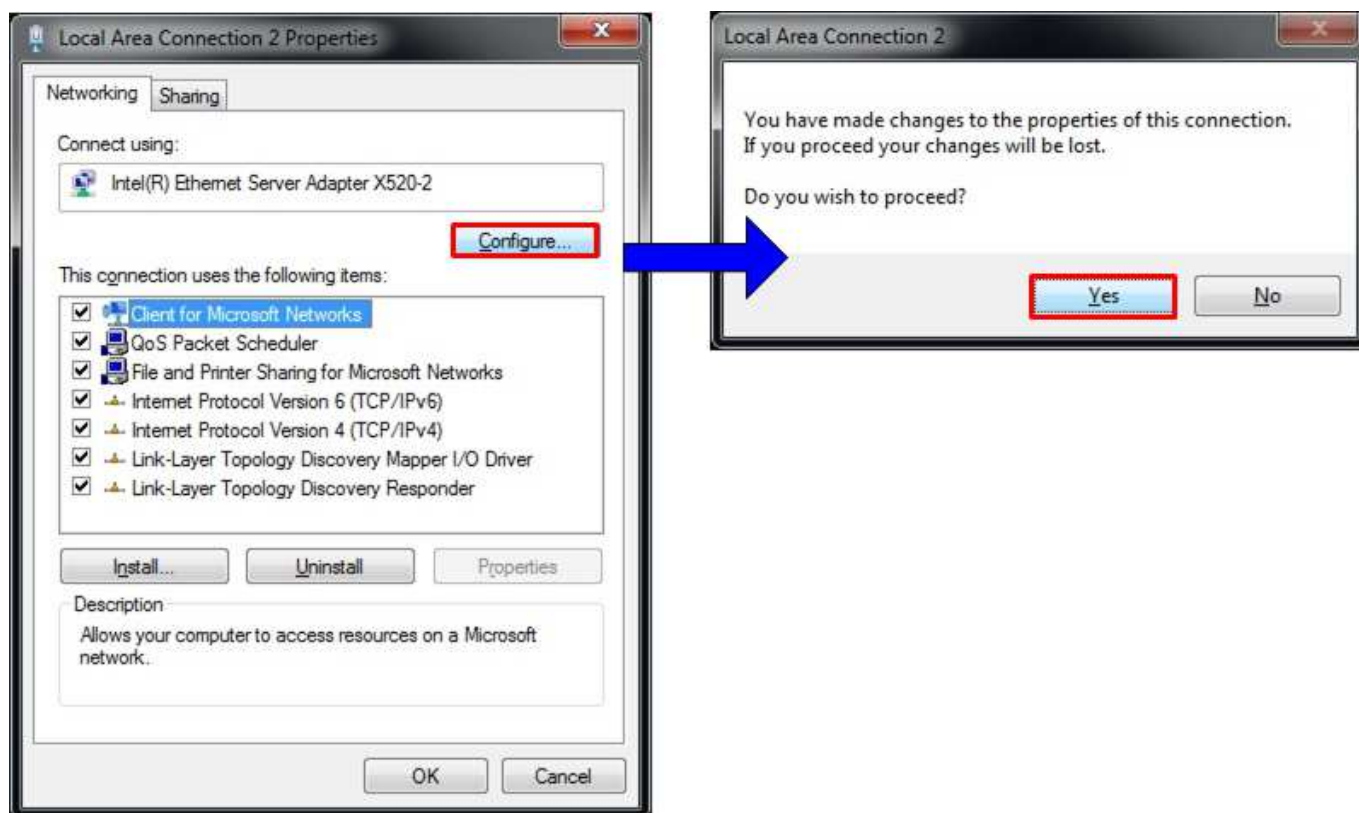

Figure 3-2 Network Configure
- On Local Area Connection Properties window, click “Configure” as shown in Figure 3-2.